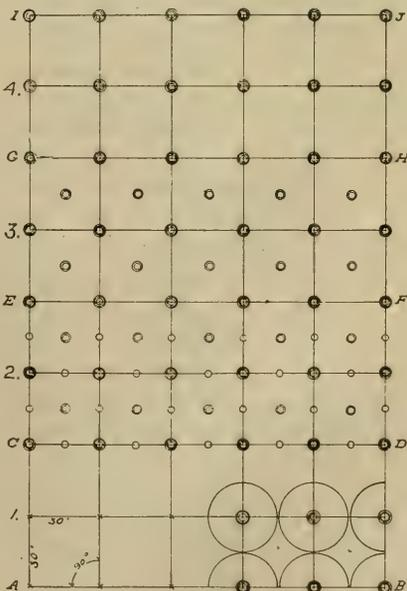

Fig. 73, Shows the square method.
- 3. Fig. 73 shows the square method using thirty feet as the distance that the trees are to be apart.